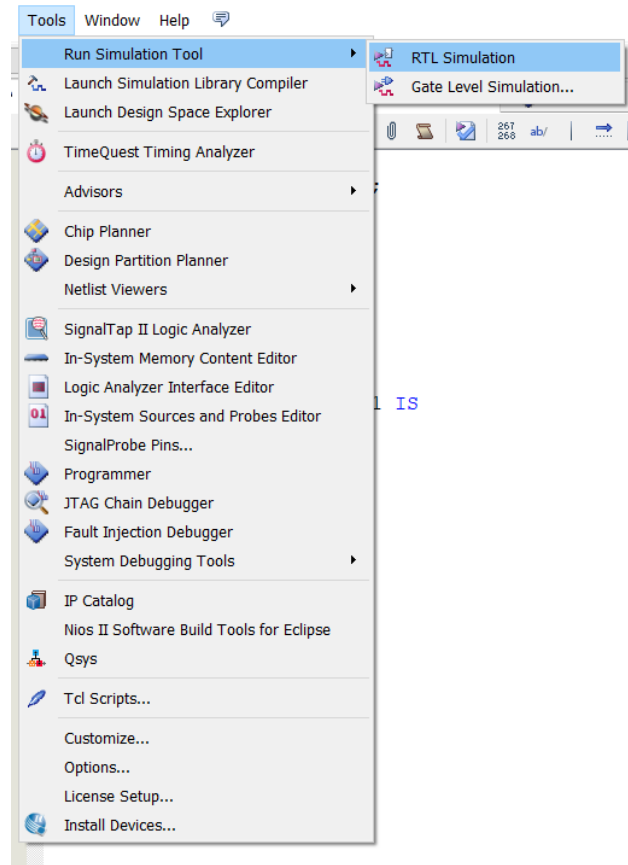
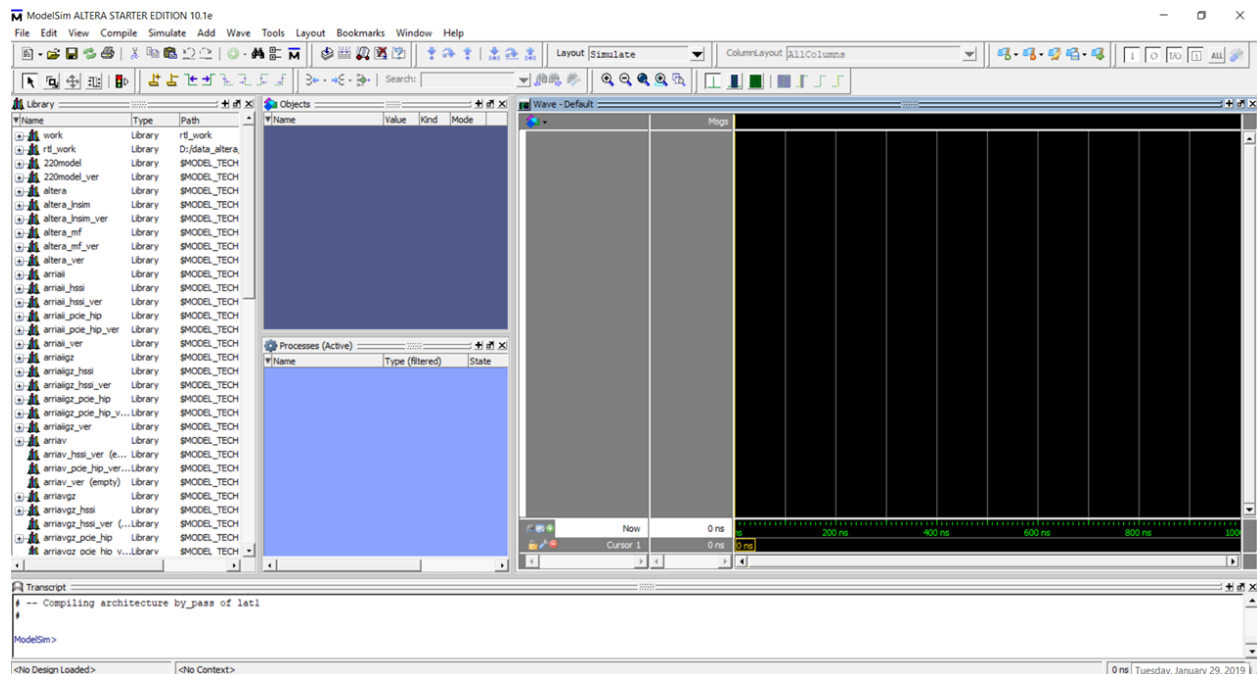

Figure 13. Starting a functional simulation
Figure 14. Initial view of the simulation in ModelSIM
1. Click tools -> run simulation tool -> RTL simulation as shown in Figure 13. After clicking, Quartus II will call ModelSIM so that The screen display appears as in Figure 14.